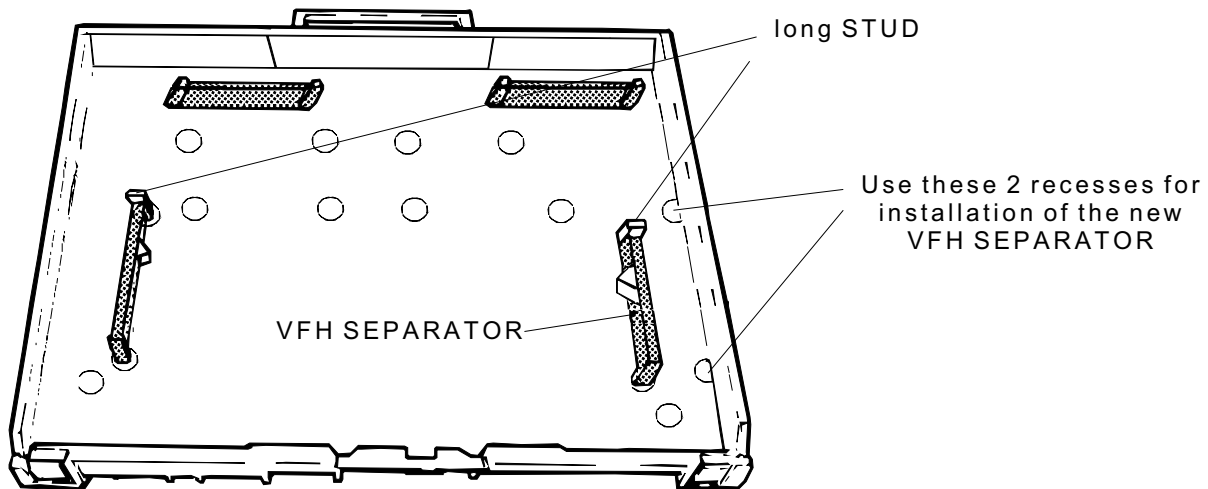

figure 1-5
4. Insert the 8x10 inch SEPARATOR from the KIT. See figure 1-5 on the next page.